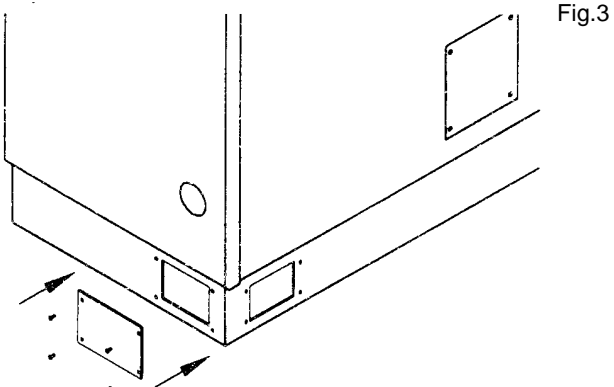

Fig.3
- (c) Fit blanking plate over air vent on right hand side. Gas cookers only (see fig.3).